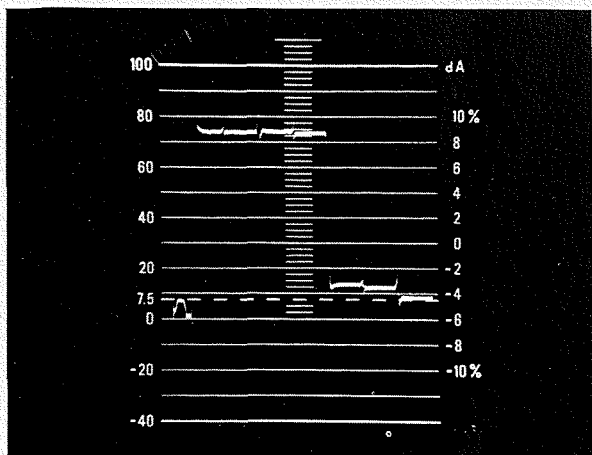

Fig 9—Green values of NTSC Color Bar Test Signal
Fig 9 illustrates the green (G) display of the same waveform. Note the luminance distortion previously observed affects the green more seriously. Green should be off during the last three bars. While the slight presence of green during the red bar will cause the displayed red to appear orange